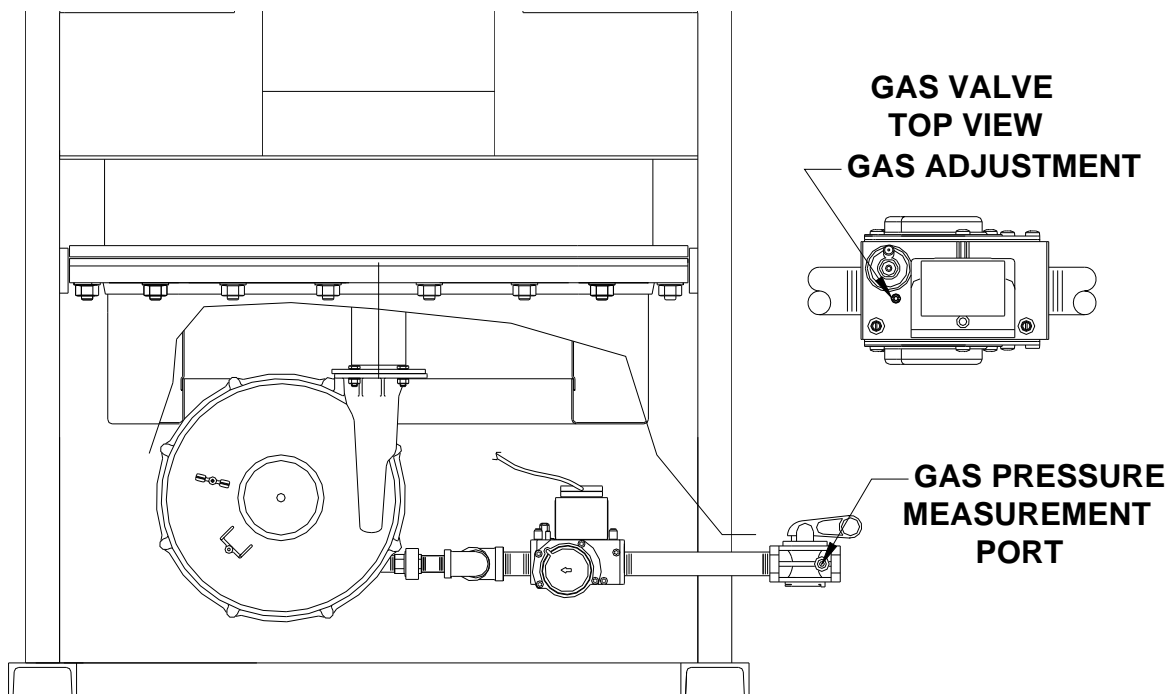

Fig 1. Valve Adjustment
4. Locate the brass restrictor adjustment (small slotted screw head) on the top of the gas valve near the outlet (Refer to Fig 1).